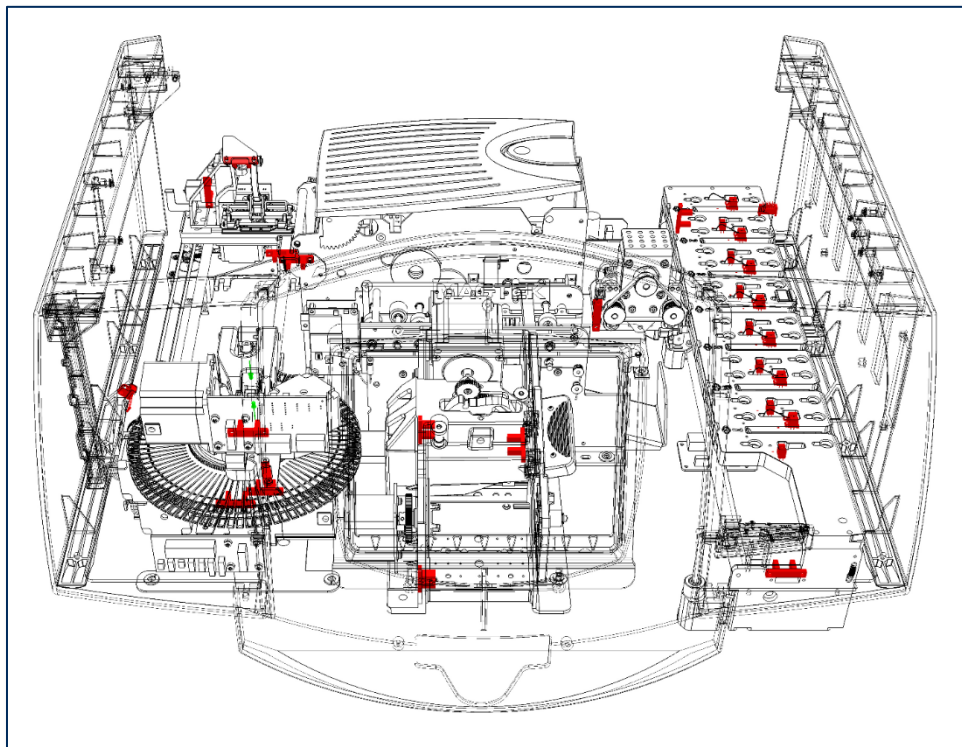

Figure 3-7 – All EC2000 Sensors Shown In Red (FRONT VIEW)
- 5) Use compressed air to clean each of the sensors (see **Figure 3-7**).